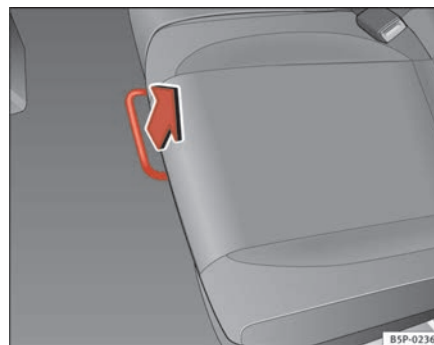

Fig. 97 For unlocking the rear seat
- In the seated position, unlock the lever in the direction of the arrow ⇒ page 132, fig. 97.